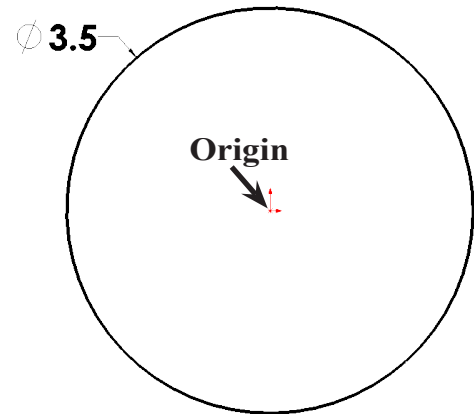

Fig. 2
- Step 4. Draw a circle starting at the Origin , **Fig. 2**.
- Step 5. Click **Smart Dimension**  (S) on the Sketch toolbar.
- Step 6. Dimension circle **diameter 3.5**, **Fig. 2**.